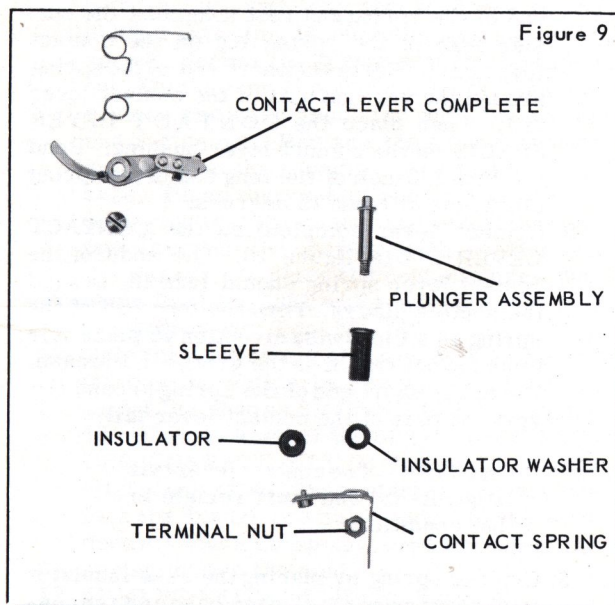

Figure 9
13. Shutters of the flash receptacle type are disassembled as follows: Using Tool No. 503J, remove the TERMINAL NUT, figure 9, on the end of the PLUNGER ASSEMBLY. Remove the case INSULATOR WASHER, the plunger assembly, and the terminal body insulating SLEEVE. Remove the CONTACT SPRING and the case INSULATOR. Remove the CONTACT LEVER COMPLETE.